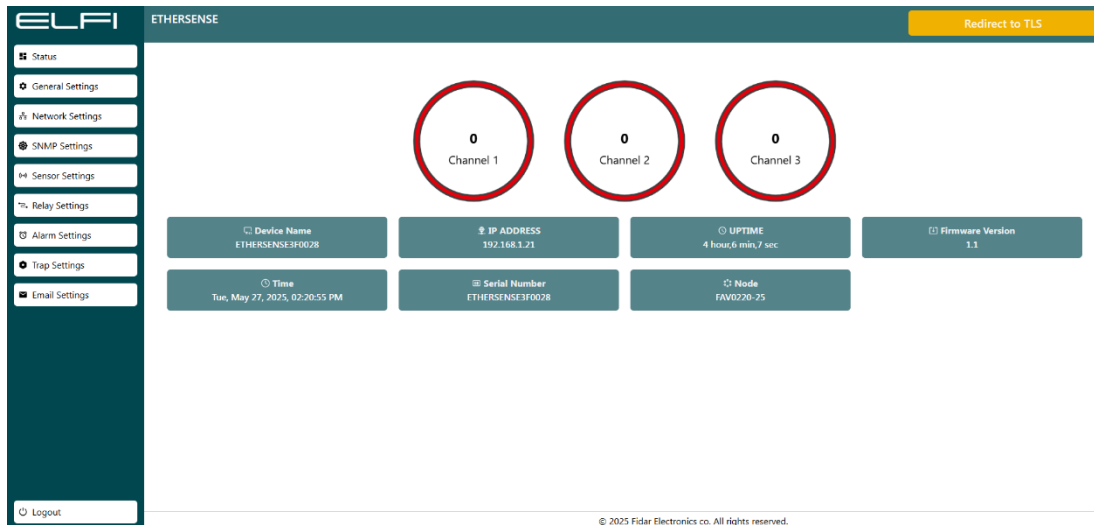

Figure 6: Detector “Status” Menu
The Status page is specifically designed to provide real-time monitoring of the DC voltage detector's performance. This digital detector operates in only two states: Active (1) and Inactive (0). This page can be used to observe critical events within the system (see Figure 6).